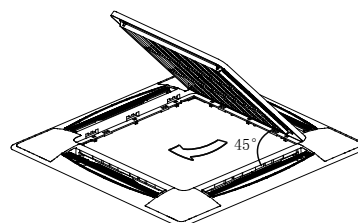

Fig.4-13
- 2) Draw the grill up to an angle of about 45°, and remove it. (Refer to Fig.4-13)